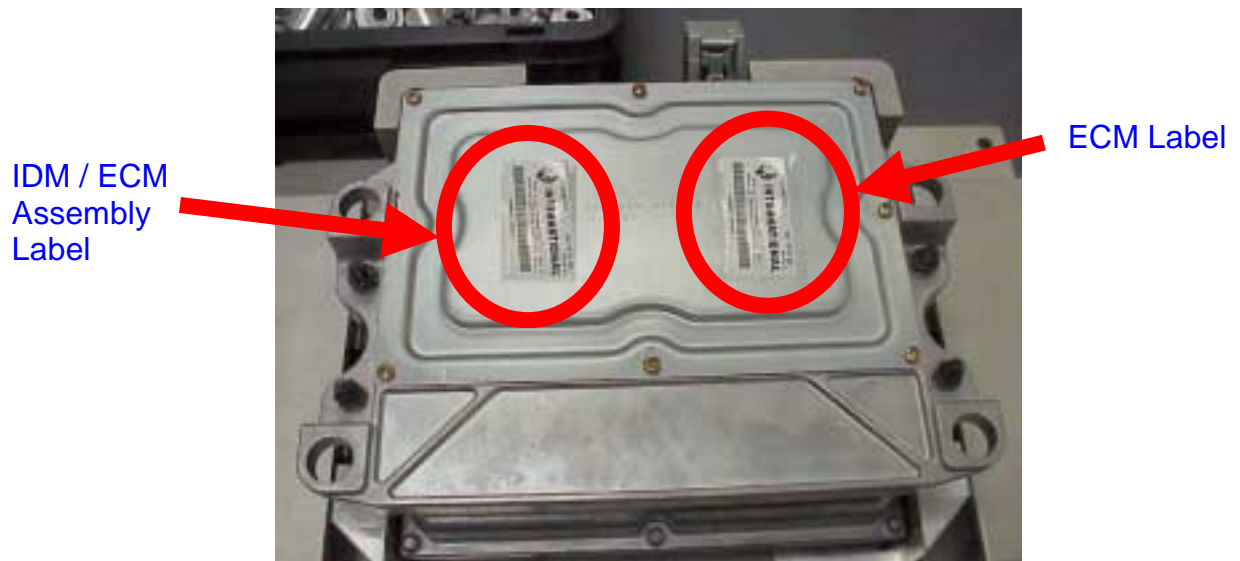

Figure 5: Shows the Bottom of the ECM, the IDM / ECM Assembly and ECM Labels are Circled
8. **DO NOT SKIP THIS STEP.** International requires the tracking numbers for the IDM / ECM assembly and for the old and new IDM's. The time to complete the INFORMATION SHEET is part of the 1.5-hour labor operation. Using the enclosed "INFORMATION SHEET", fill in the required serial numbers for items 6 through 10. The "INFORMATION SHEET" is the next page of this letter and is also supplied with each new recall kit.
- **Item 7** requires the ECM serial number from the bottom of the ECM, as shown in Figure 5.
- **Item 8** requires the IDM/ECM assembly serial number from the old IDM / ECM assembly label, as shown in Figure 5. Determine the part number from the old IDM / ECM assembly label and enter the serial number from the old IDM / ECM label in the spaces provided behind the correct part number on the INFORMATION SHEET.